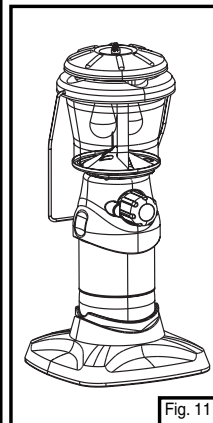

Fig. 11
- Set lantern into base. (Fig. 11)